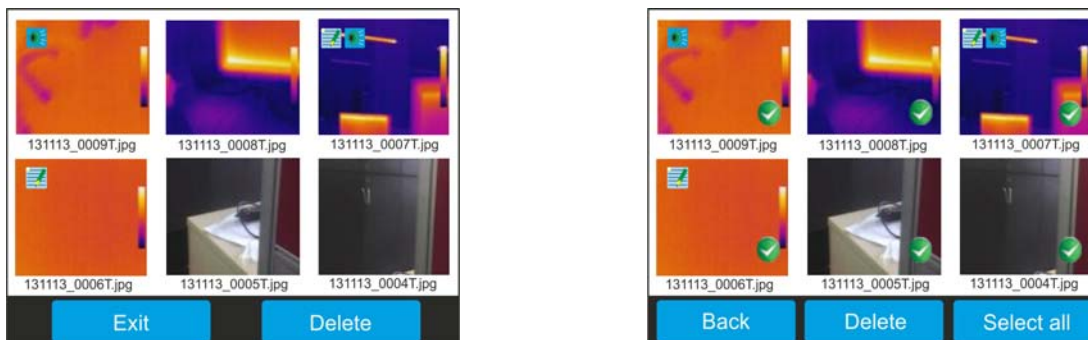

Fig. 67: Selecting and deleting images
- Touch the icon “- 1. Touch the icon “**Delete**” inside the image gallery. The following screen (see Fig. 67 – Right side) is shown on the display: